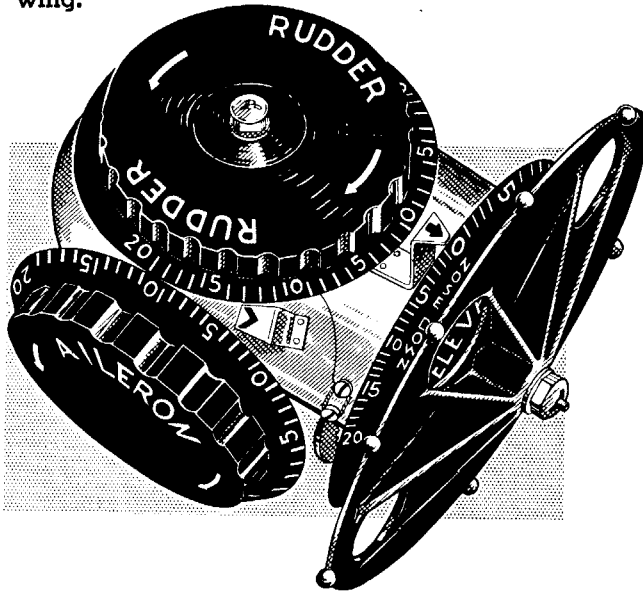

Figure 12 — Trim Tab Controls
(1) **GENERAL.**—The trim tab controls, located on the left hand side of the pilot's cockpit (see figure 12), are rotated in the direction of the desired resultant motion of the airplane. Indicators adjacent